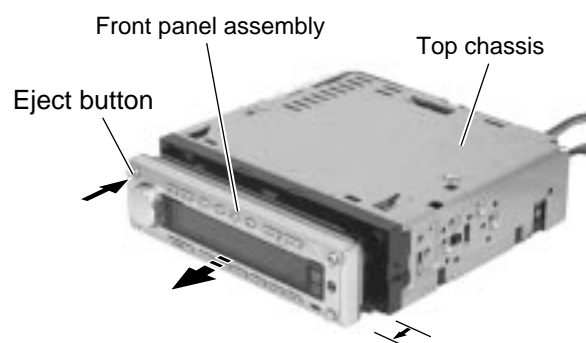

Fig.2
■ Removing the top chassis (See Fig.2 to 6)
1. Press the eject button in the upper left part of the front panel assembly to move the assembly as shown in Fig.2 and turn off power.